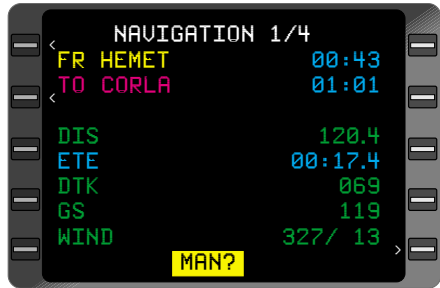

Figure 3-176
3. **BACK** Key - DEPRESS. Cursor field displays **MAN?** to inform the pilot of the pending change. (Figure 3-176)